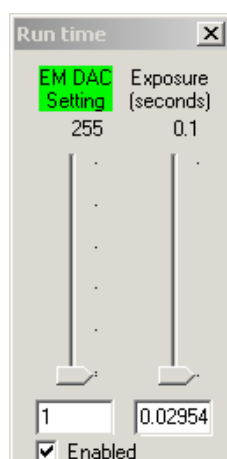

Figure 5. *The slider control window for exposure time and EM gain.*
The slider window (see Fig. 5) gives you easy access to the electron multiplication (EM) gain and exposure time setting. You can use the mouse to drag the sliders or type values directly into the fields below them. You can in principle switch off the EM amplifier here, but you shouldn't. The EM gain slider is disabled if the conventional amplifier is in use. Please note that the EM setting here is *not* the physical gain and that it is not linearly related to it! See the AstraLux thesis for typical gain curves for different temperatures. See also Fig. 11 and Fig. 12 for with and without electron multiplication linearity.